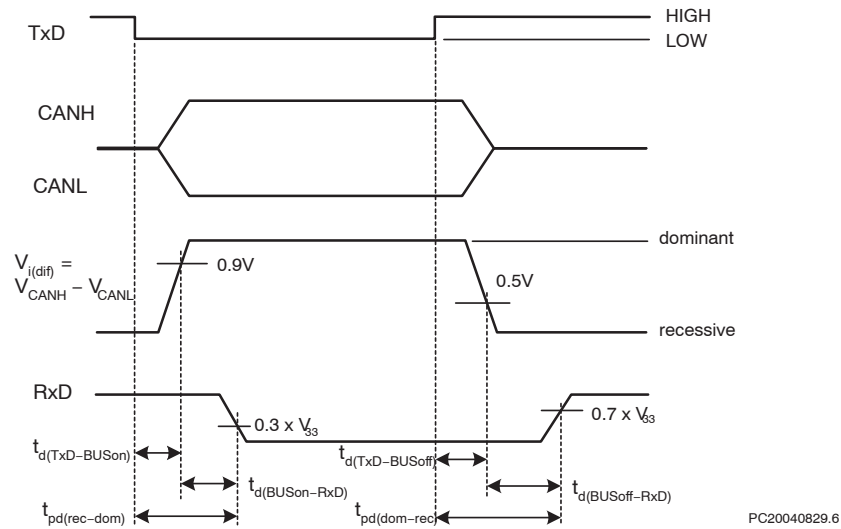

Figure 6. Timing Diagram for AC Characteristics
**TIMING CHARACTERISTICS** (See Figures 6 and 7)